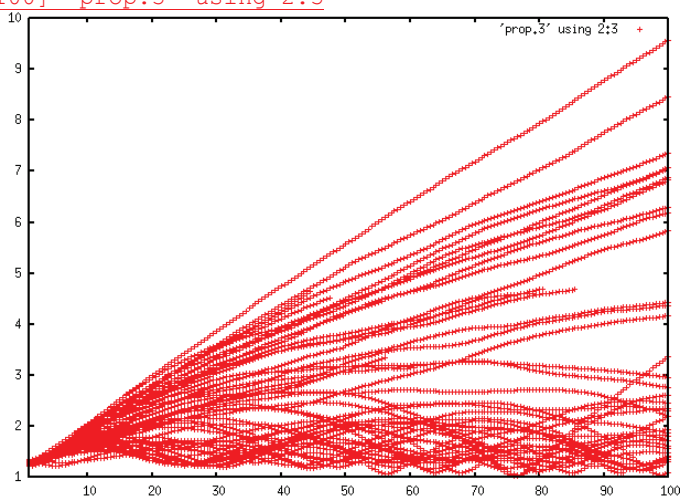

Fig. 10. CN distance ( $\text{\AA}$ ) as a function of time (fs) for all 60 trajectories.
*Fig. 10 shows that the trajectories split in two. Part of them keeps the CN distance oscillating below 2  $\text{\AA}$ , while other part shows dissociation.*